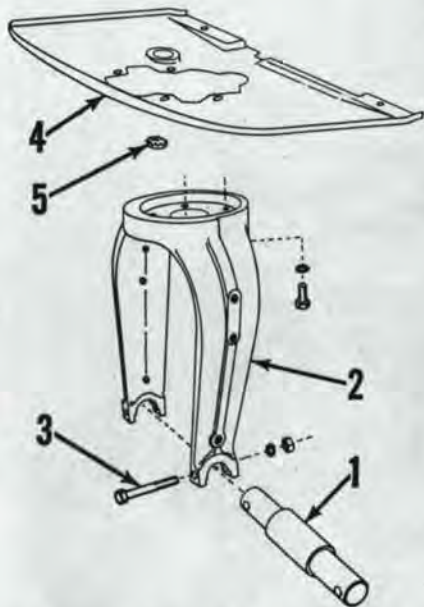

Fig. AC1 — Exploded view of the single front wheel fork and associated parts.
**1. WHEEL ASSEMBLY.** The single front wheel assembly may be removed after raising front of tractor and removing bolt (3—Fig. AC1) at each end of wheel spindle (1).
**2. R&R SINGLE WHEEL FORK.** Raise front end of tractor, remove bolts (3—Fig. AC1) from each end of wheel spindle and remove wheel assembly from fork. Unbolt and remove fork (2) from steering gear sector shaft (14—Fig. AC8 or Fig. AC17).